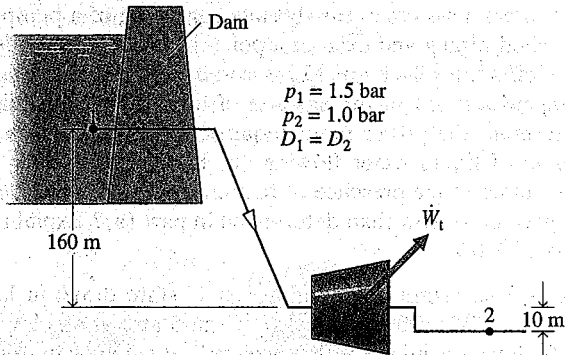

Fig. P6.184
6.184 As shown in Figure P6.184, water flows from an elevated reservoir through a hydraulic turbine operating at steady state. Determine the maximum power output, in MW, associated with a mass flow rate of 950 kg/s . The inlet and exit diameters are equal. The water can be modeled as incompressible with $v = 10^{-3} \text{ m}^3/\text{kg}$. The local acceleration of gravity is 9.8 m/s^2 .